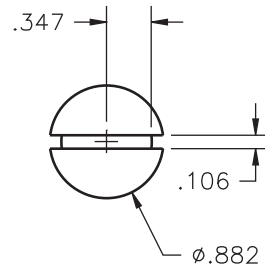

Fig. 33-1
3. Draw the top view of a flathead screw as shown in Fig. 33-1. Omit the dimensions.